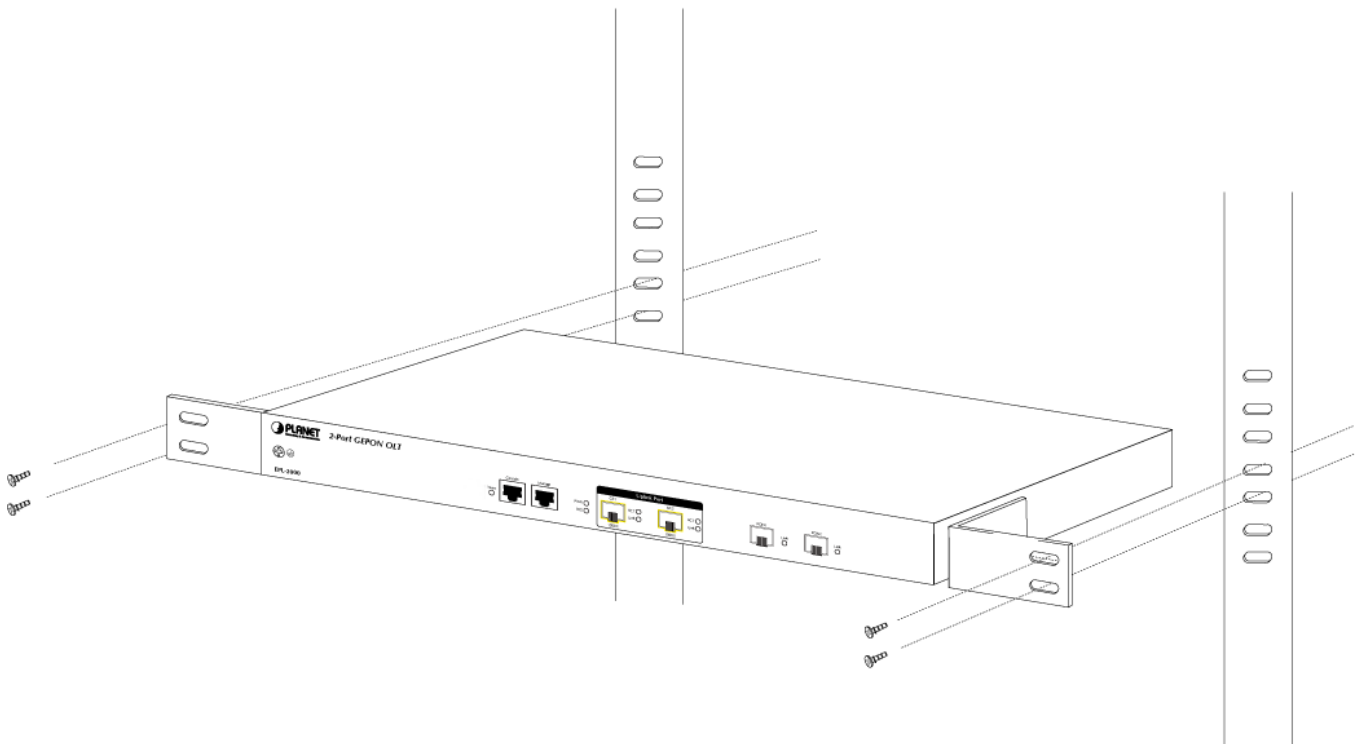

Figure 2-5 Mounting the GEAPON OLT on a Rack
**Step 5:** After the brackets are attached to the GEAPON OLT, use suitable screws to securely attach the brackets to the rack, as shown in Figure 2-5.